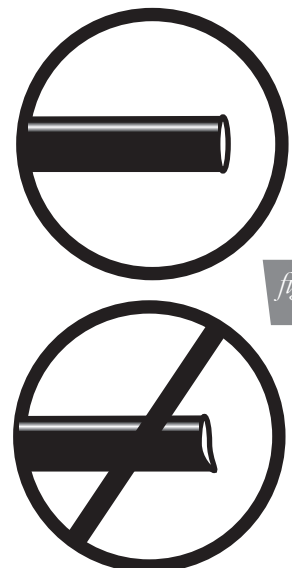

fig. 17
- a. Check the air line connection by deflating the spring and removing the line by pulling the collar against the fitting and pulling firmly on the air line. Trim 1" off the end of the air line. Be sure the cut is clean and square (see fig. 17). Reinsert the air line into the push-to-connect fitting.
2. If the preceding steps have not resolved the problem, call Air Lift customer service at (800) 248-0892.